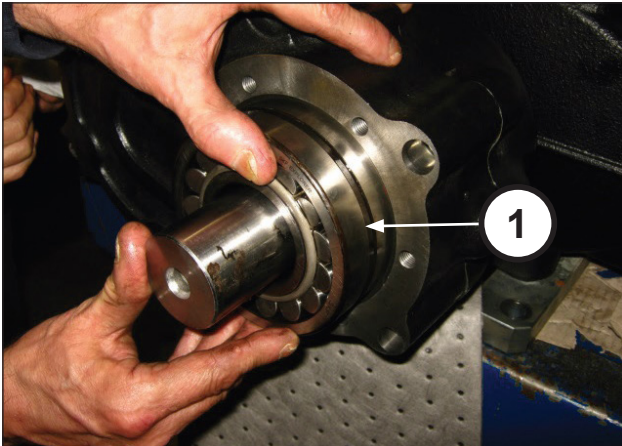

Fig. 80
Insert the 60x130x46 bearing on the pinion (pos. ①, Fig. 80).